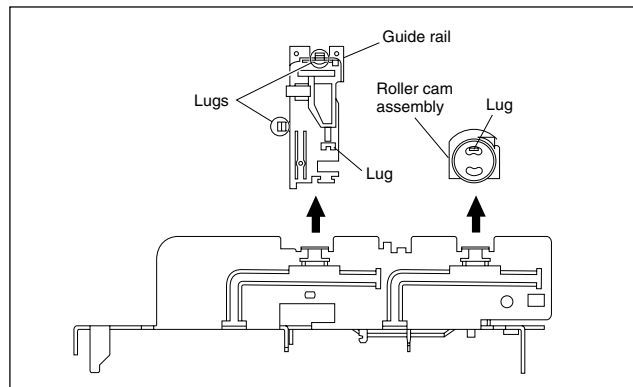

Fig. 2-2-3a
- (1) Remove the guide rail and roller cam assembly. (See Fig.2-2-3a.)
- (3) Lugs on the guide rail and one lug on the roller cam assembly)